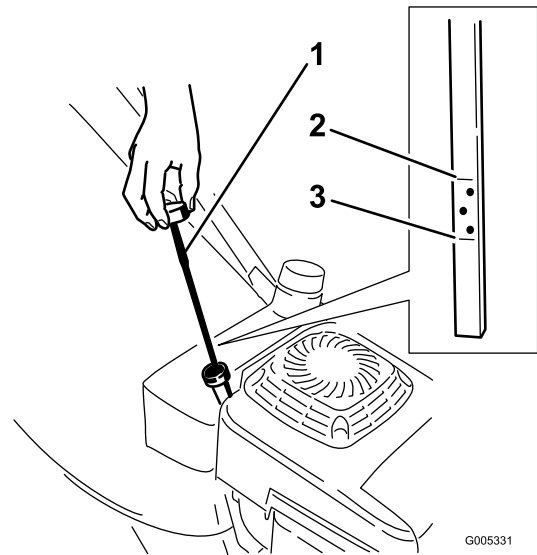

Figure 11
Before each use, ensure that the oil level is between the Add and Full marks on the dipstick (Figure 11).
2. Clean around the dipstick (Figure 11).
6. Remove the dipstick and read the oil level on the dipstick (Figure 11).